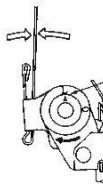

Fig. 10B
d. Turn the knob to "L" and fix the spring unit. (See Fig.10B)